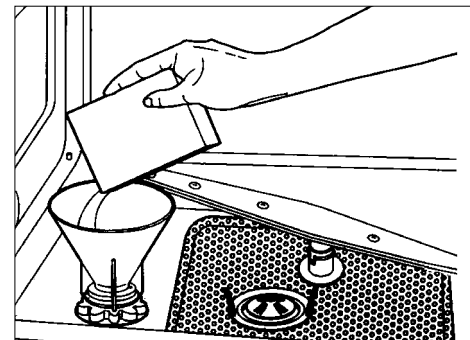

fig. 3
- The salt reservoir is located at the bottom of the dishwashing machine. After having first removed the lower rack, unscrew the reservoir cap in an anti-clockwise direction, and pour in the salt, using the funnel (which is supplied with the dishwashing machine) (fig. 3).